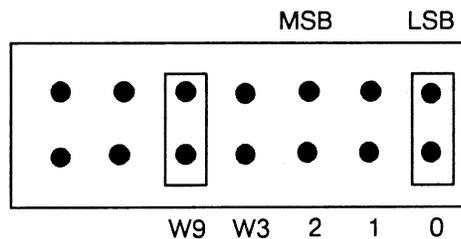

Figure 7-10. Selecting a Second 170MB Disk Drive as Drive 1, Second Configuration
2. Locate the jumper select connector on the lower-left, rear side (below the power connector) of the disk drive you are installing (Micropolis). To make this drive 1 be sure that pin ID0 is in and that pins ID1 and ID2 are out. See Figures 7-10 and 7-11. To add other disk drives, use the jumpering configurations in Table 7-2.